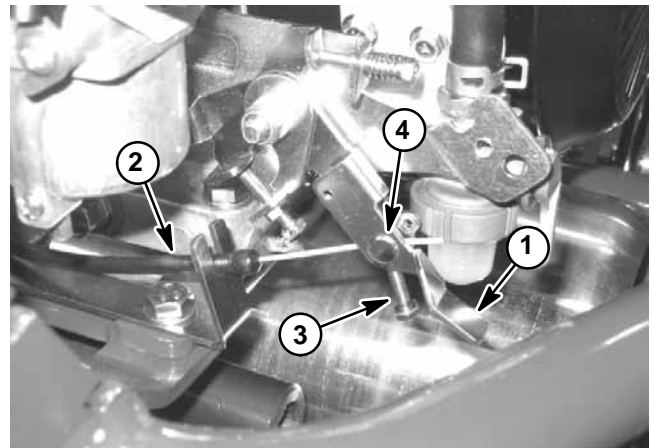
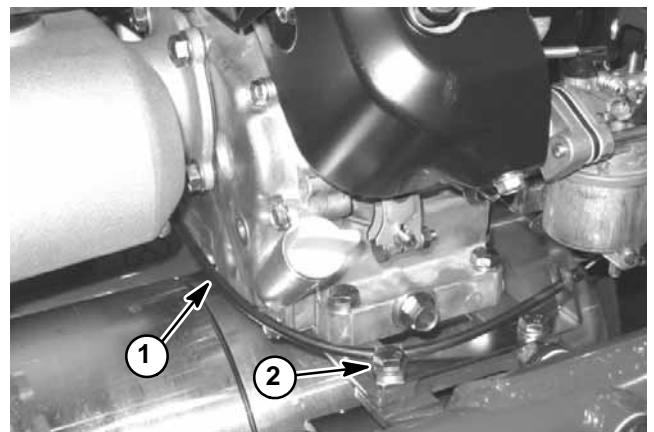
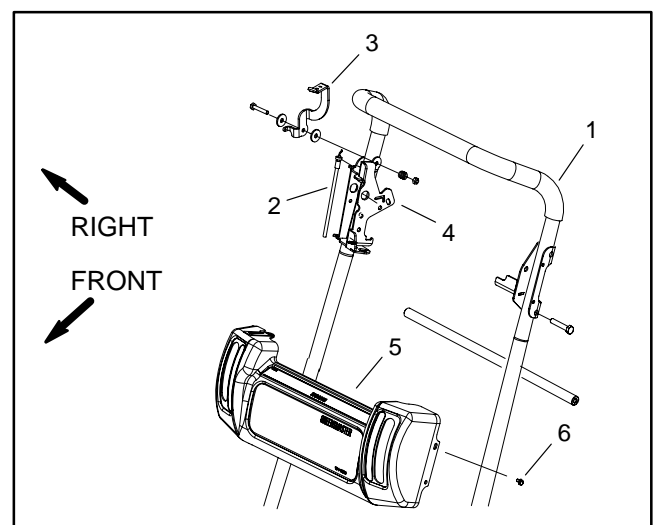

Figure 10
Figure 11
Figure 12
3. Remove throttle cable from the engine governor linkage as follows (Fig. 10):
- B. Remove cap screw and flange nut that secure cable clamp to traction unit frame (Fig. 11). Locate and retrieve three (3) washers from under clamp.
4. Remove four (4) screws securing the console to the handle and move console forward and away from the handle.
5. Remove throttle cable from the throttle lever assembly (Fig. 12):
1. Connect throttle cable to the throttle lever. Snap throttle cable housing to the control bracket (Fig. 12).
2. Position console to handle and secure console with four (4) screws.
4. Install cable to the governor lever as follows (Fig. 10):
- C. Position three (3) washers and cable clamp to frame. Secure with cap screw and flange nut.